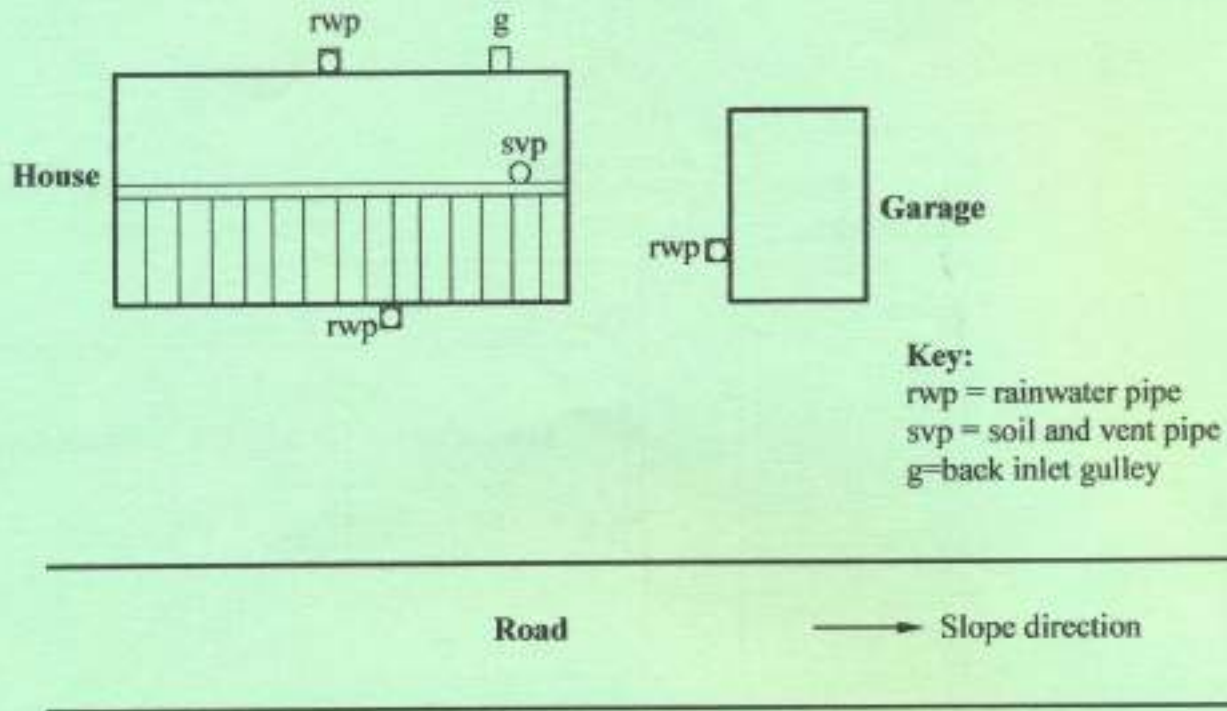

Figure 3
- (iii) Use the set-up shown in **Figure 3** to illustrate separate drainage system. (9 marks)